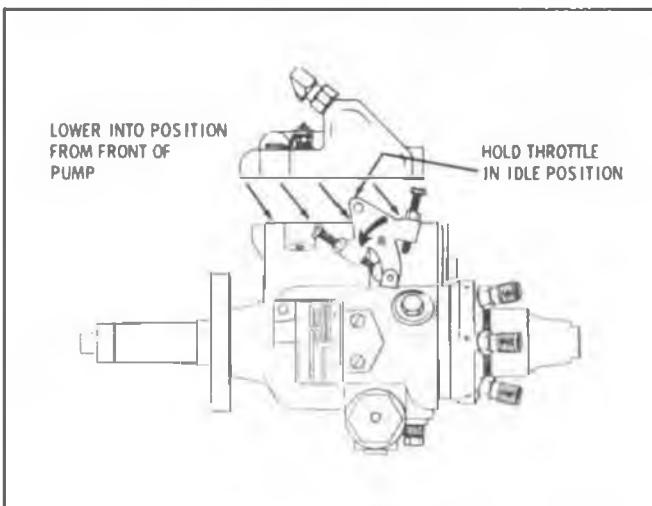

Fig. 2-13 Governor Cover Installation
24. Install new pump cover seal. Make sure the screws are not in the cover and position the cover about $\frac{1}{4}$ inch forward (toward shaft end) and about $\frac{1}{8}$ inch above the pump (Fig. 2-13).